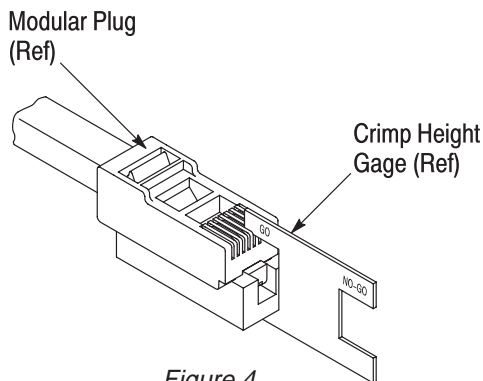

Figure 4
**NOTE** *Crimp Height Gage 904170-1 is available to be used as a quick verification of acceptable crimp height as shown in Figure 4. Refer to 408-4389 for instructions on using the gage.*